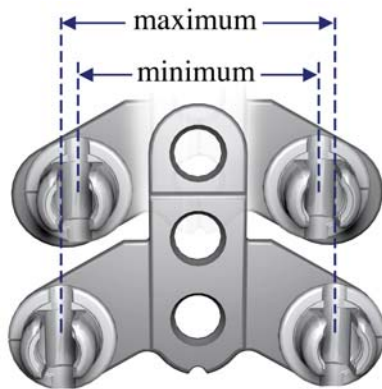

Figure 9 – 31mm OC Plate
- The MOUNTAINEER Spinal Fixation System offers an OC Plate for occipital fixation. The OC Plate is available in three sizes (Small – 31mm, Medium – 37mm and Large – 45mm) maximizing versatility in the medial-lateral position of the rods (Table 1). Each OC Plate size has three midline holes for occipital fixation and two lateral arms with sliding and rotating connection points for the rods (Figure 9).